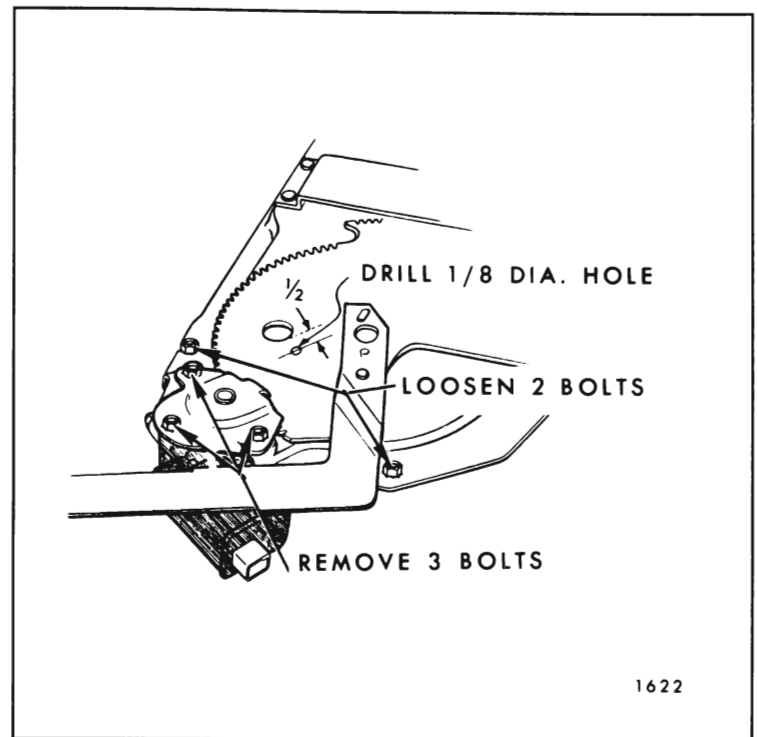

Fig. 9-37—Tail Gate Regulator Motor Assembly
4. Drill a 1/8" hole through regulator sector and back plate. (See Fig. 9-37.) DO NOT drill hole closer than 1/2" to edge of sector gear of back plate. Install a pan head sheet metal tapping screw (#10-12 x 5/8) in drilled hole to lock sector gears in position.